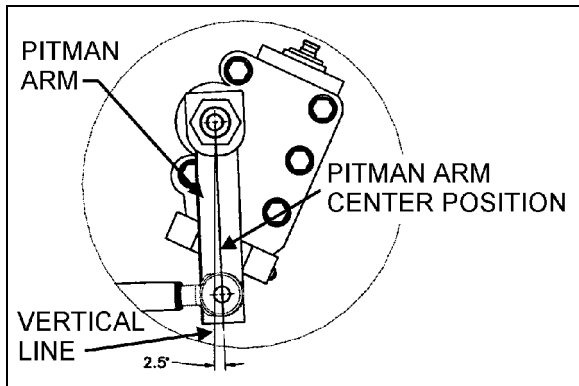
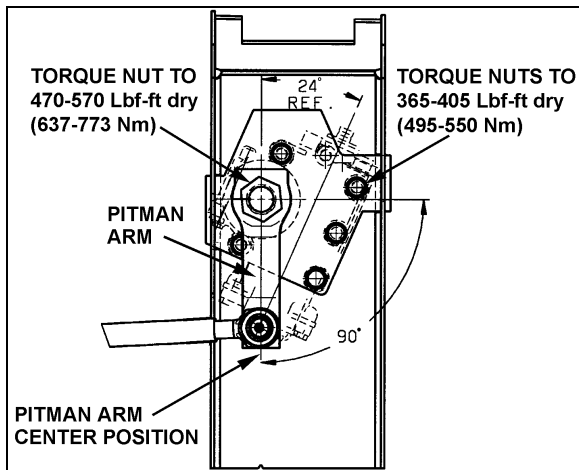

FIGURE 17: I-BEAM FRONT AXLE PITMAN ARM ADJUSTMENT 14037
FIGURE 18: IFS PITMAN ARM ADJUSTMENT 14057
3. Lock nut with sector shaft using a punch mark into the groove (Refer to figures 17 and 18).
2. Using a protractor, check the angle of the pitman arm (refer to Figure 17 and Figure 18 for details).